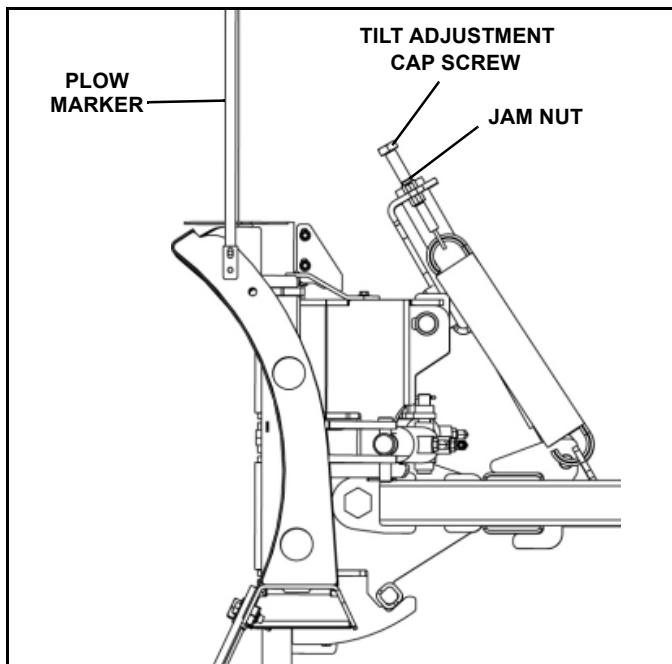

Figure 1-16
2. Loosen jam nut on the tilt adjustment cap screw located in the center section of the plow trip mechanism (See Figure 1-16).